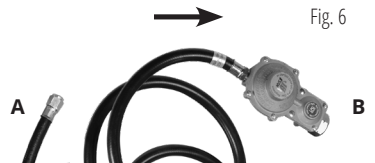

Fig. 6
3. Connect the LPG hose to the LPG input (connect hose end **A** to the LPG input, as shown in Fig. 6).
4. Connect the hose end with the reducer to the gas cylinder (connect hose end **B** to the gas cylinder, as shown in Fig. 6).
6. Press the pressure relief valve on the reducer 2-3 times (see Fig. 6).